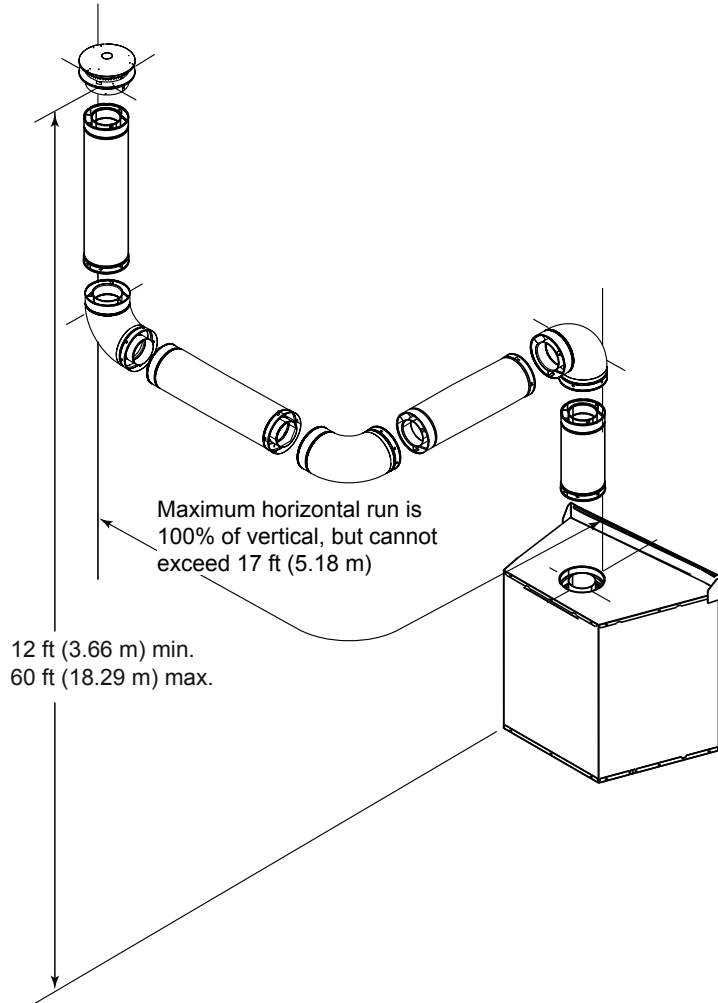

Figure 4.12
- A maximum of three 90° elbows (or six 45° elbows) may be used in any vent configuration. Some elbows may be installed horizontally. See Figure 4.12.